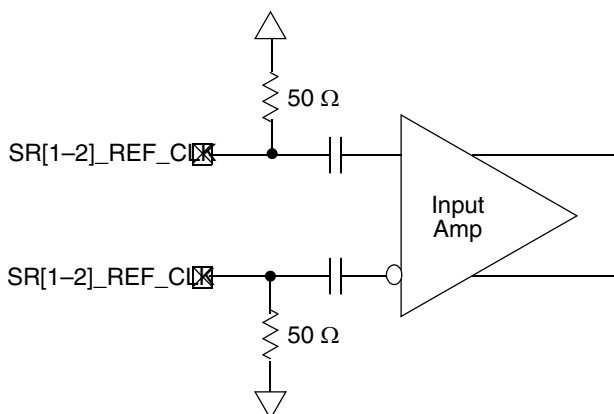

Figure 5. Receiver of SerDes Reference Clocks
The SerDes reference clock inputs are applied to an internal PLL whose output creates the clock used by the corresponding SerDes lanes. The SerDes reference clock inputs are $\text{SR1_REF_CLK}/\overline{\text{SR1_REF_CLK}}$ or $\text{SR2_REF_CLK}/\overline{\text{SR2_REF_CLK}}$. Figure 5 shows a receiver reference diagram of the SerDes reference clocks.
- The $\text{SR}[1-2]_{\text{REF_CLK}}$ and $\overline{\text{SR}[1-2]_{\text{REF_CLK}}}$ are internally AC-coupled differential inputs as shown in Figure 5. Each differential clock input ($\text{SR}[1-2]_{\text{REF_CLK}}$ or $\overline{\text{SR}[1-2]_{\text{REF_CLK}}}$) has on-chip 50- Ω termination to GND_{SXc} followed by on-chip AC-coupling.